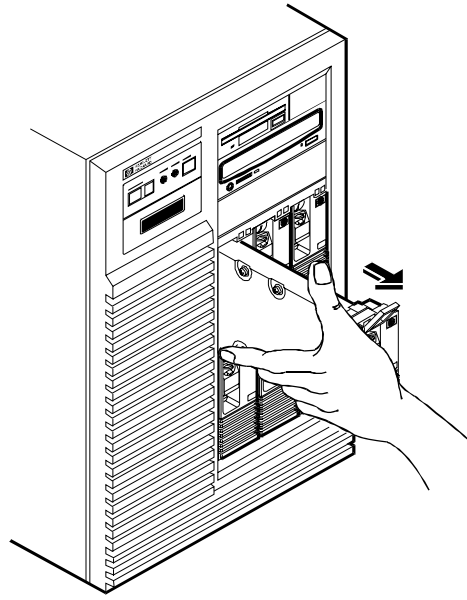

Figure 1-4. Removing the Hot Swap Hard Disk Drive
4. Use your hand to support the bottom of the hard disk drive, as shown in Figure 1-4. Slowly pull the hard disk drive straight out. *Do not allow the hard disk drive to fall.*